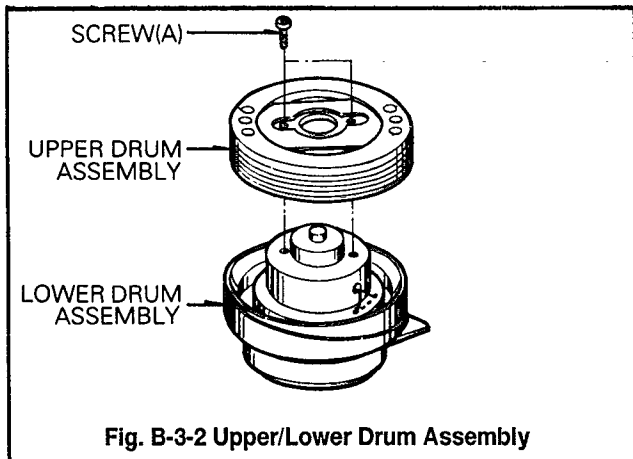

Fig. B-3-2 Upper/Lower Drum Assembly
- ① Do not touch the Video Head Tip with fingers or tools.
**3-2. Upper and Lower Drum Assembly (Fig. B-3-2)